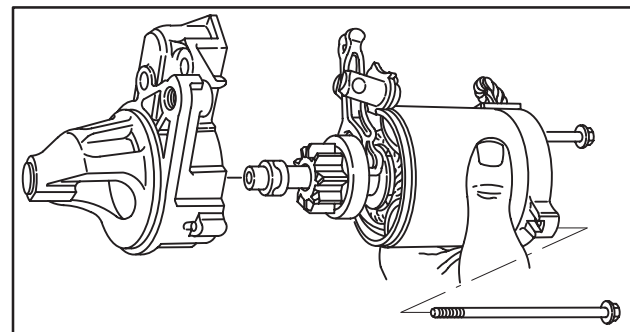

Fig. 59 – Installing Drive Housing
7. Install drive housing, Fig. 59.